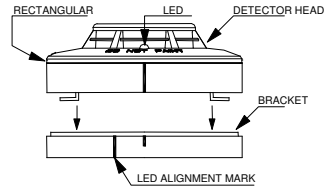

Fig. 2 Mating detector head onto base.
- Align the components as shown in Figure 2.